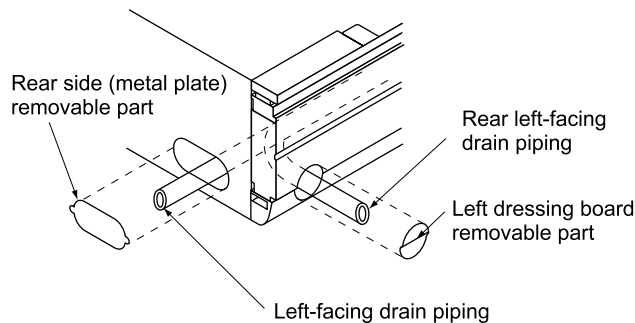

Fig. 20
(1) Carry out the drain piping
- The drain pipe outlet direction can be chosen from the right rear, right, left rear, and left. Refer to "REFRIGERANT PIPING WORK" for right rear and right direction, and refer to Fig. 20 for left rear and left direction.